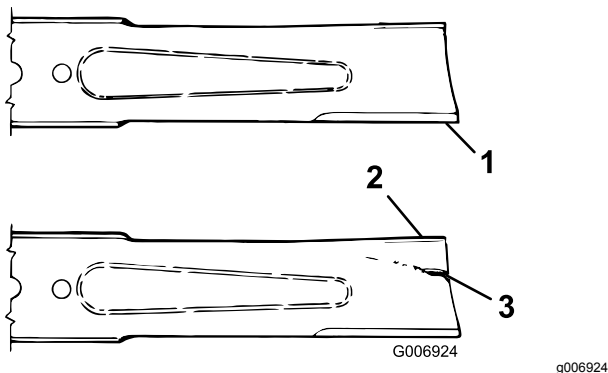

Figure 84
3. Examine the cutting ends of the blade carefully, especially where the flat and curved parts of the blade meet (Figure 84).
4. If wear is noticed (Figure 84), replace the blade; refer to Removing and Installing a Blade \(page 61\).